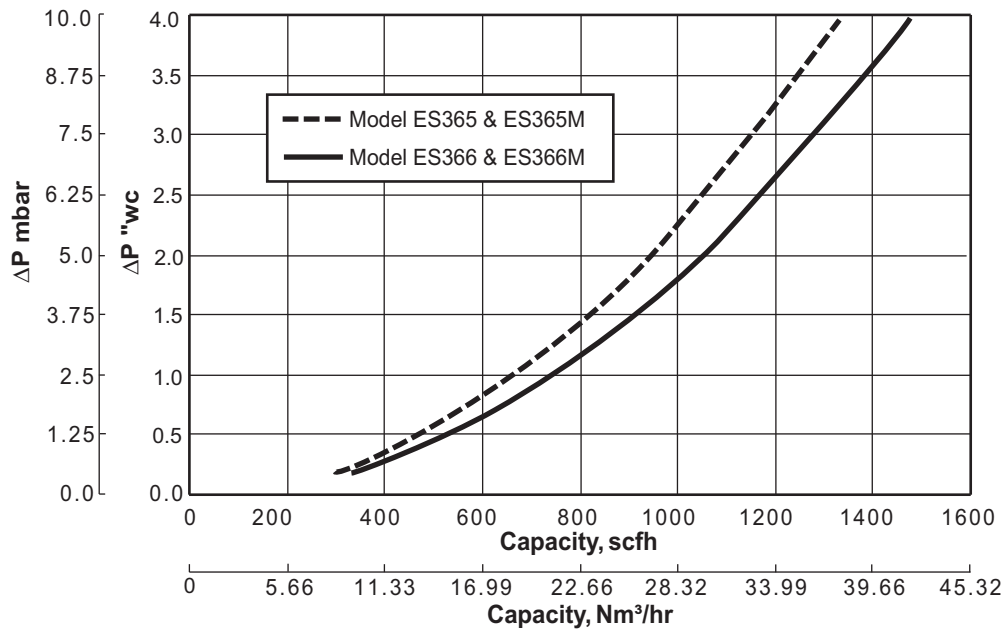

Figure 3.1. Flow vs Pressure Drop, 3/4" & 1" NPT (Rp) Models
- Define the pressure drop through the ratio regulator based on the Flow vs. Pressure Drop curves (Figures 3.1 and 3.2) and conversion factors listed in the "Specifications" section.